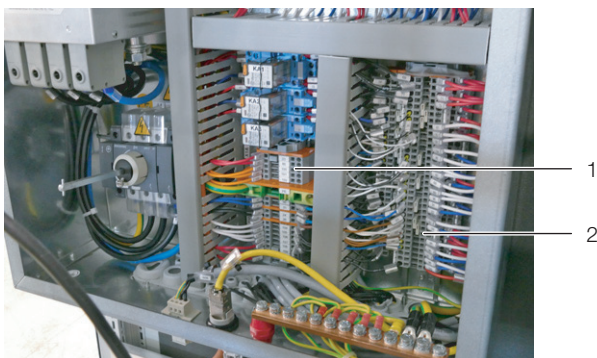

Fig. 34: Terminal strips X1A and X2A in the electronics box
- If you wish to switch the LCP DX on and off remotely: In the electronics box at the terminal strip X1A, remove the jumper between the two terminals 30 and 80 ("Remote On-Off") and connect a floating remote switch (normally open contact) (fig. 34, item 1). If the two terminals are not jumpered, the status message "Din-Off" will appear in the display.